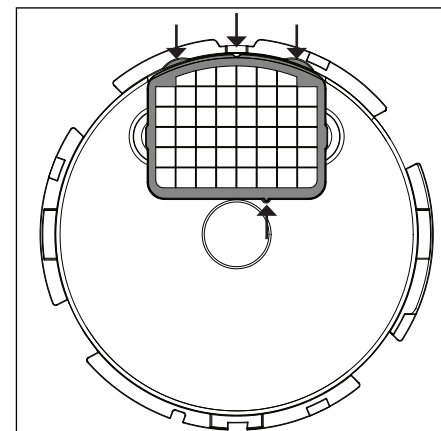

Figure 3
- 1 Place DICER CUTTER into DICER BOTTOM DISC as shown in Figure 3. The DICER CUTTER will simply lay in the DICER BOTTOM DISC receptacle, it is not designed to snap into place.